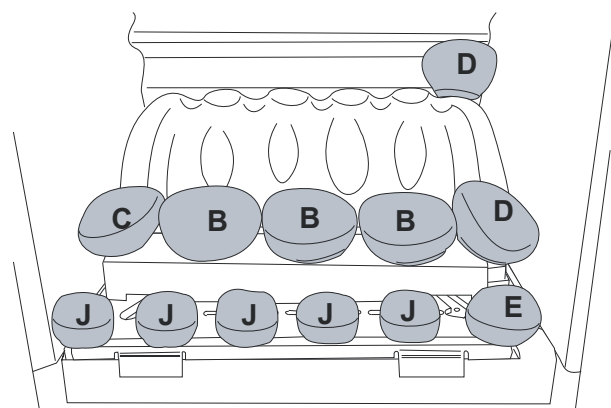

Figure 34
4. Insert the **J & E** pebbles centrally onto the spikes and place the **B, C & D** pebbles on the middle matrix ensuring the same orientation as shown in **Figure 34**.